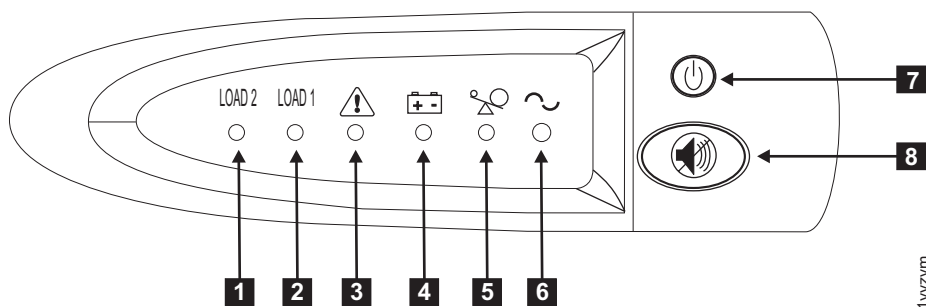

Figure 349. 2145 UPS-1U front-panel assembly
12. To turn on the 2145 UPS-1U, press and hold the on/off button (**7** in Figure 349). On some versions of the 2145 UPS-1U, you need a pointed device, such as a screwdriver, to press the on/off button. The 2145 UPS-1U undergoes a self-test, taking approximately five seconds, before the power-on indicator **6** and the load indicators (**1** and **2**) light up permanently to indicate that the 2145 UPS-1U is supplying power to the SAN Volume Controller. The 2145 UPS-1U begins to charge its battery while in normal mode.